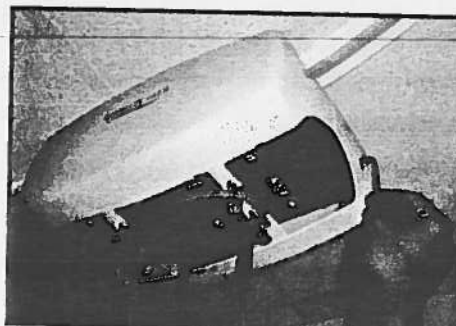

Figure 14D - Turn the Allen Key to lift/ lower the lift strap.
Step 4) Insert the Allen key into the hole discovered after removing the clip and turn the key with your fingers. Refer to Figure 14D. Turn the clockwise to lower the lift strap and counter clockwise to raise.